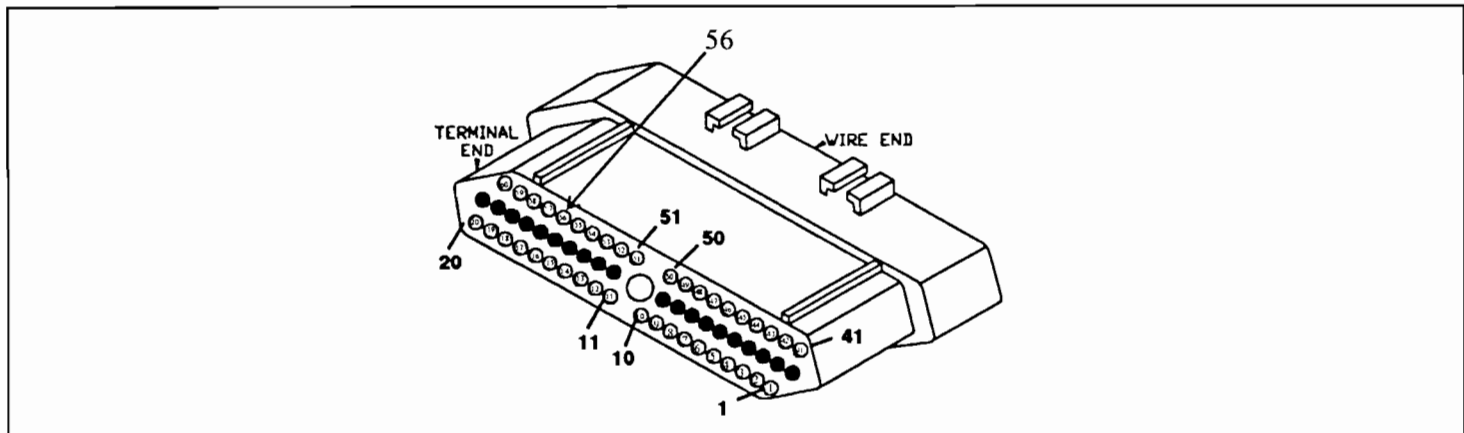
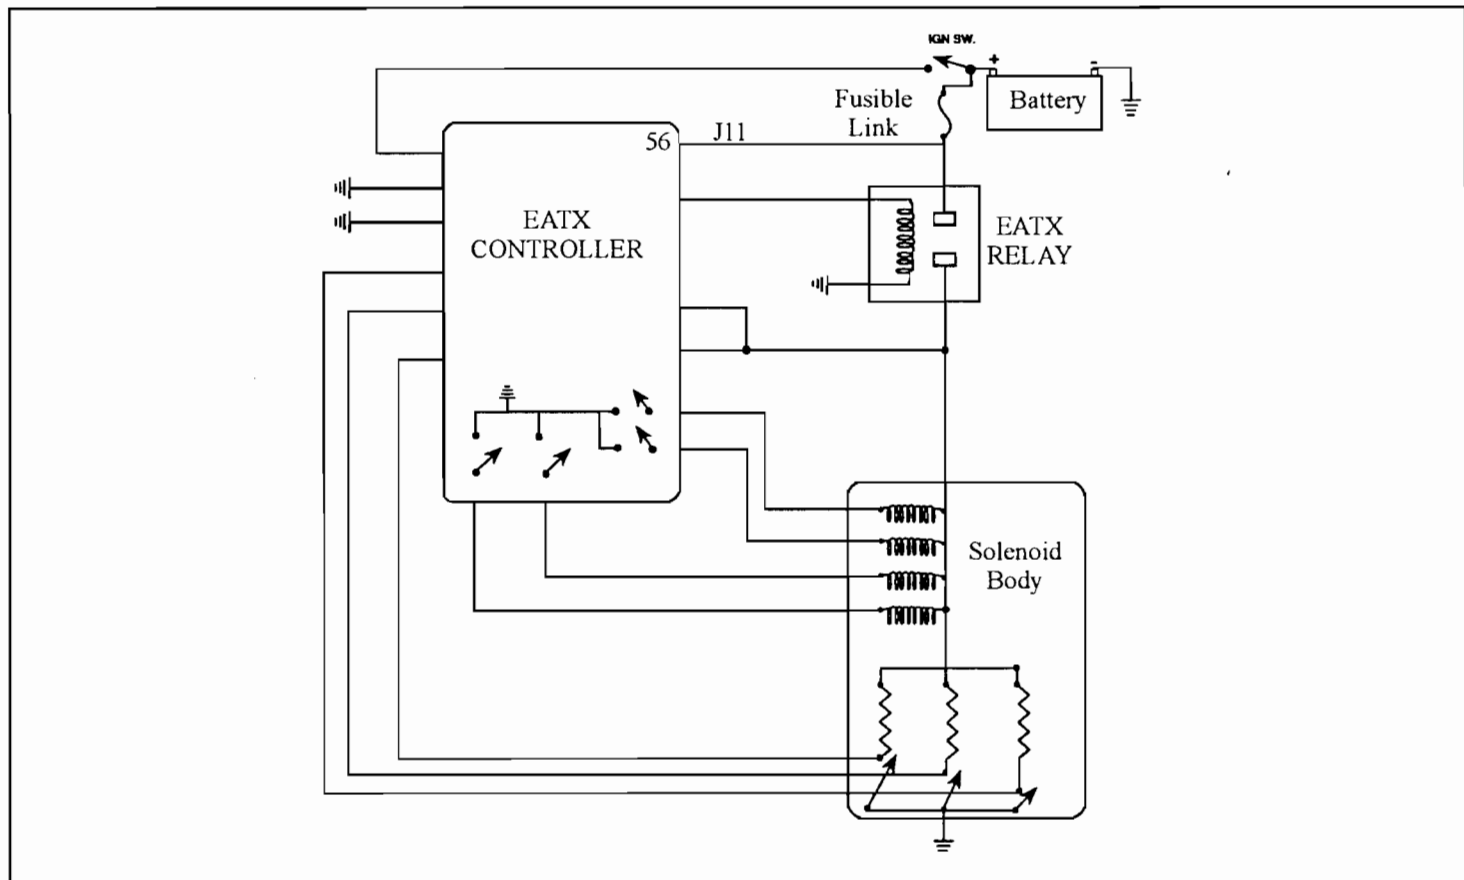
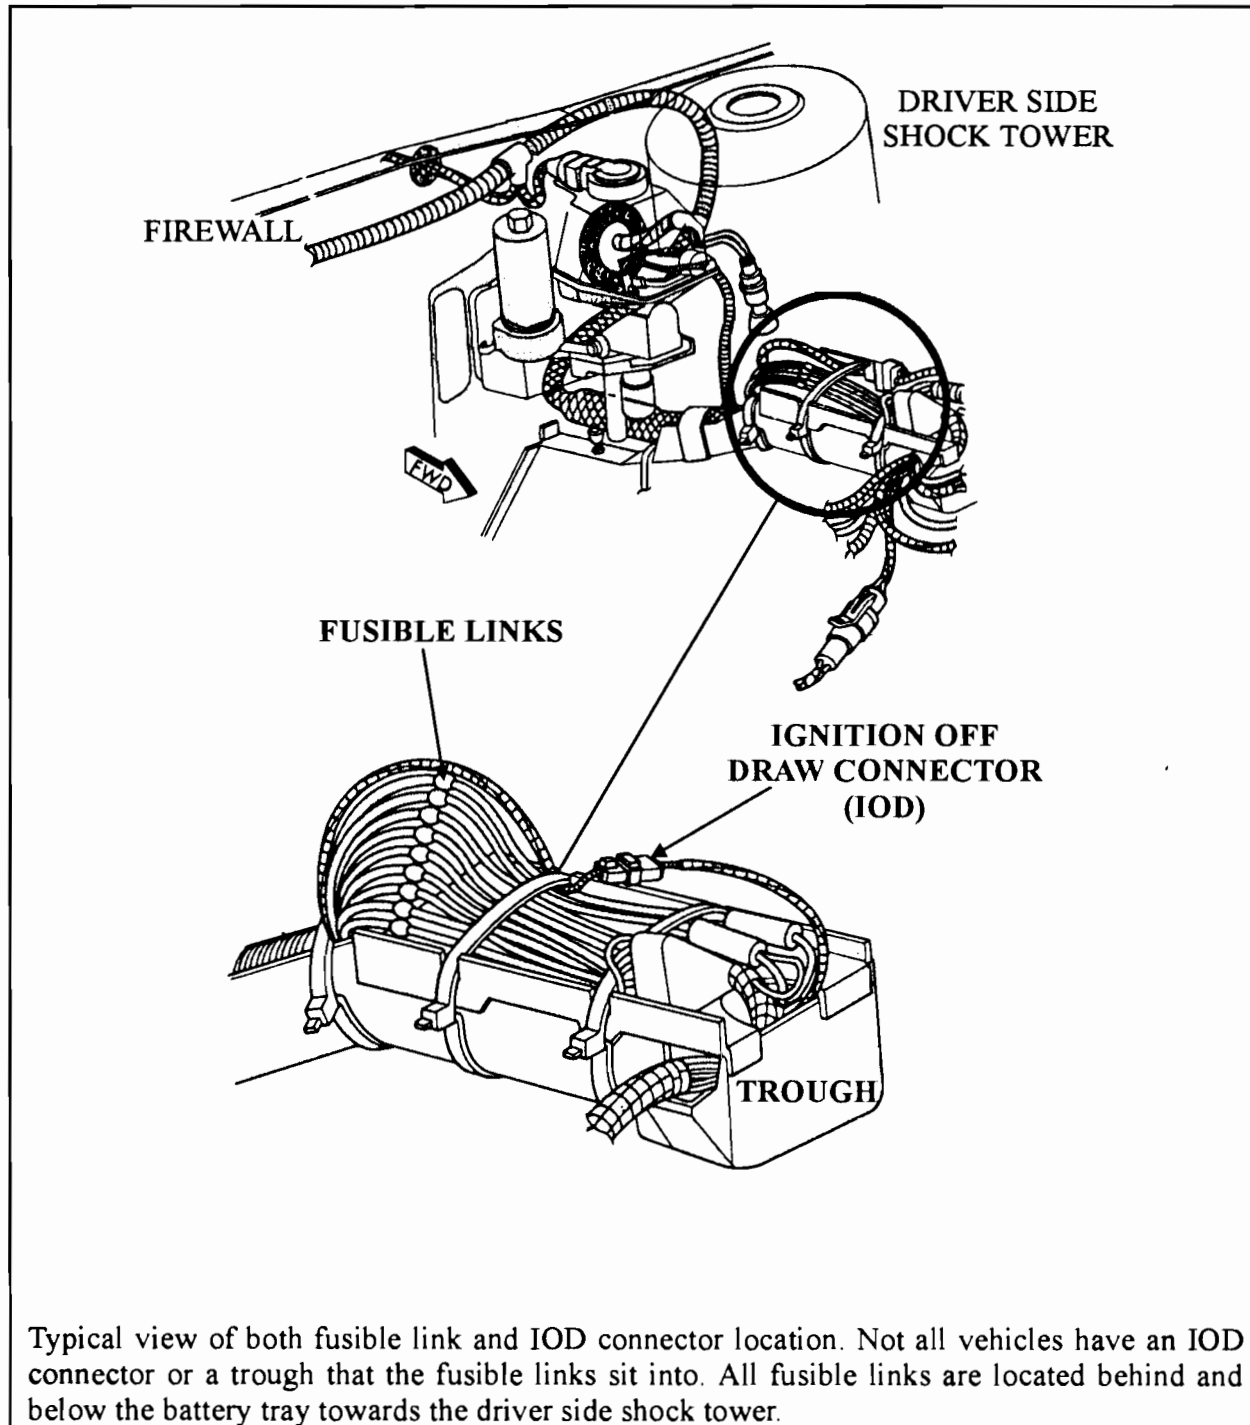

Figure 3
Figure 4
Figure 5
1. Check for battery voltage on the J11 circuit at pin 56 which is in the 60 way connector that plugs into the EATX controller (See Figure 3). If battery voltage is not seen, a fuse or a fusible link may be blown (See Figure 4). Fusible links are color coded and can usually be found below and between the battery and driver side spring tower (See Figure 5). Refer to Figure 6 for fusible link color or fuse number.